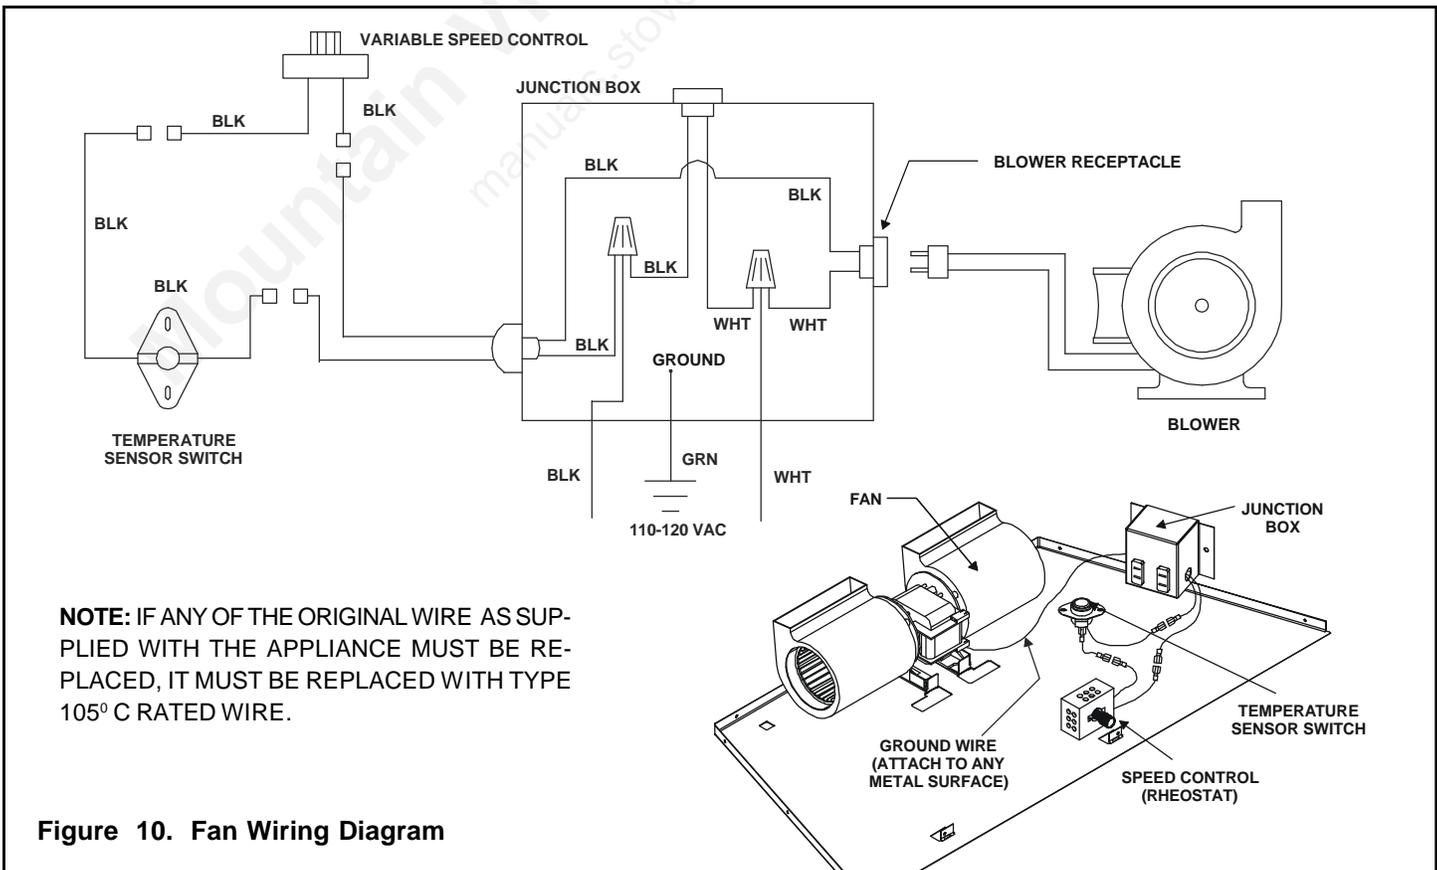

Figure 10. Fan Wiring Diagram
- Bend up the tabs on the base pan (see Figure 10).